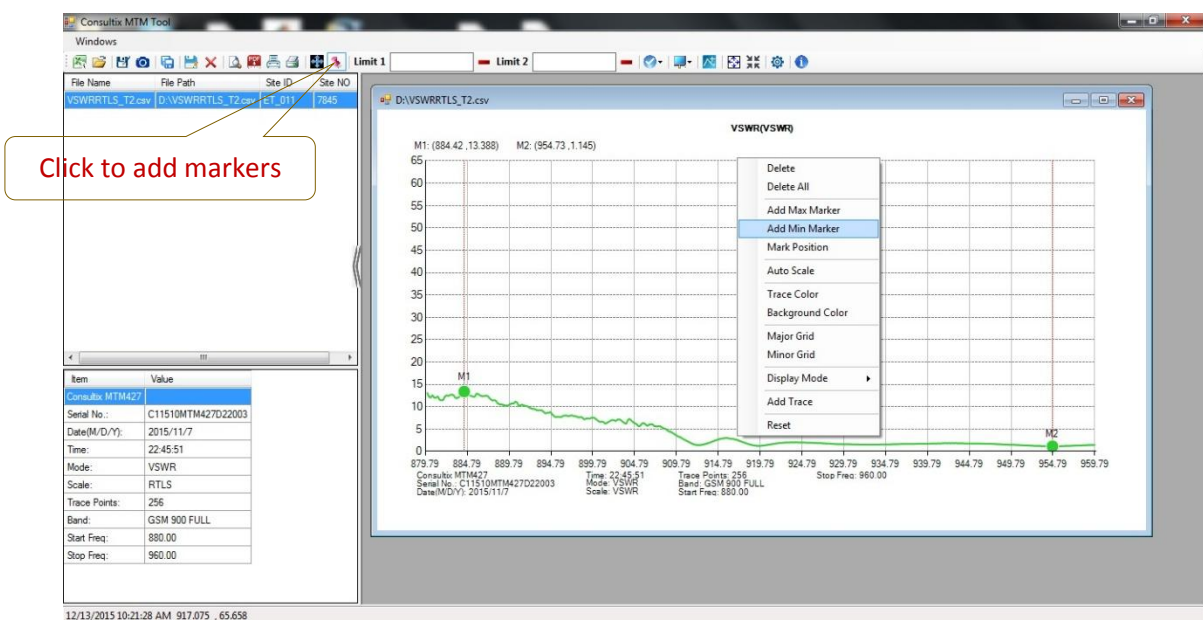

Figure 5, Adding Markers
- 1- Add markers: from **Function Toolbar**, click “**Edit Marker**” button, and double click everywhere on the trace to place your markers in addition to adding maximum and minimum markers by right click the marker and choose “**Add Max Marker**” and “**Add Min Marker**” as shown in figure 5. (Users can add up to 6 markers).